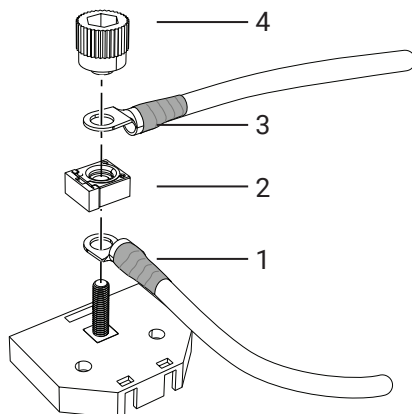
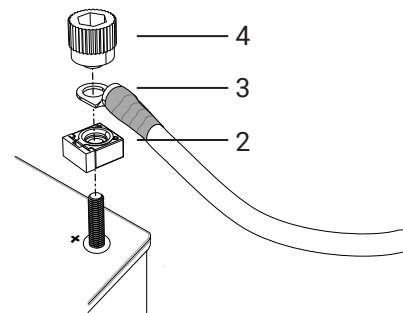

Figure 80. Connection to the fuse box
Figure 81. Connection to the battery's positive terminal
2. If applicable, ensure that the cab switch (CS) is in the "Off" position.
3. When using a fuse box, connect the cable (1) to the battery's positive terminal and to the fuse box and place the fuse (2) above, see Figure 80.
4. When connecting directly to the positive battery terminal, place the fuse (2) on the positive terminal, see Figure 80.
5. Connect the main power cable (3) to the fuse box / positive terminal, see Figure 80 - Figure 81.
6. Screw tight the cable connections and fuse with the knob (4). Install the cables at 90° or 180° from each other. Install the fuse at right angles to the cables; see Figure 80 - Figure 81.